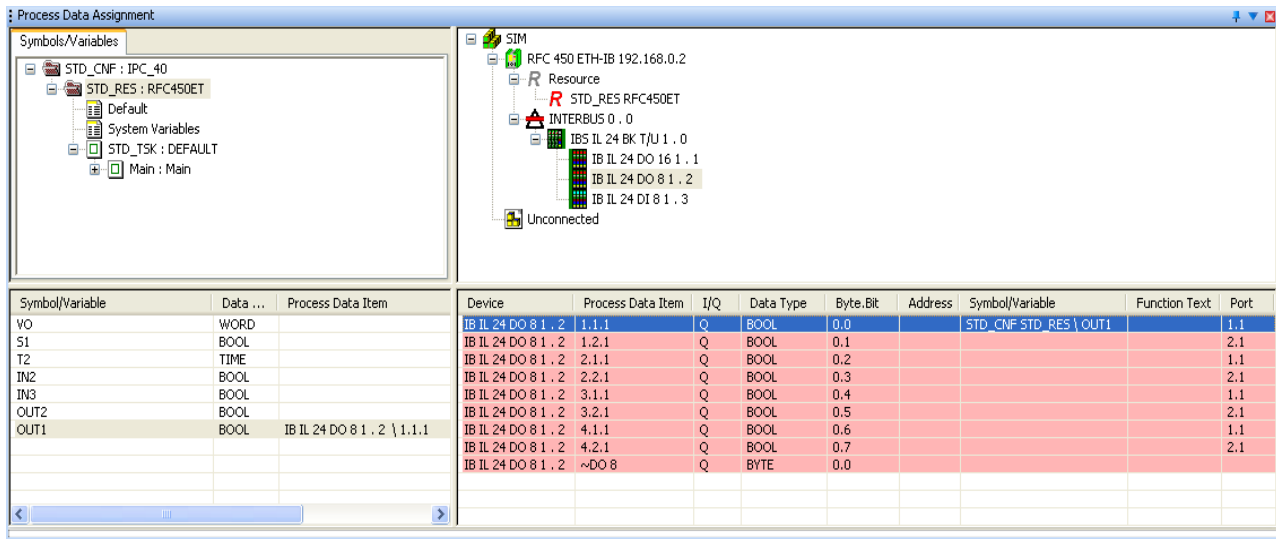

Figure 4-21 Process data item 1.1.1 assigned to variable OUT1
- In the top right window, select the device for which you would like to link the process data to variables (e.g., IB IL AO 1/SF in Figure 4-21).
- In the top left window, "Symbols/Variables", select the standard resource (STD\_RES RFC450ET in Figure 4-21).
- In the top right window, select the device for which you would like to link the process data to variables (e.g., IB IL 24 DO 8 in Figure 4-21).
- Select the process data item to be linked (1.1.1 in Figure 4-21).
Please note that the variables shown in Figure 4-21 had to be created in the IEC programming workspace first before they could appear under "Symbols/Variables" in the process data assignment workspace.
- Using drag & drop, link the selected variable to one of the variables on the left-hand side (OUT1 in Figure 4-21).